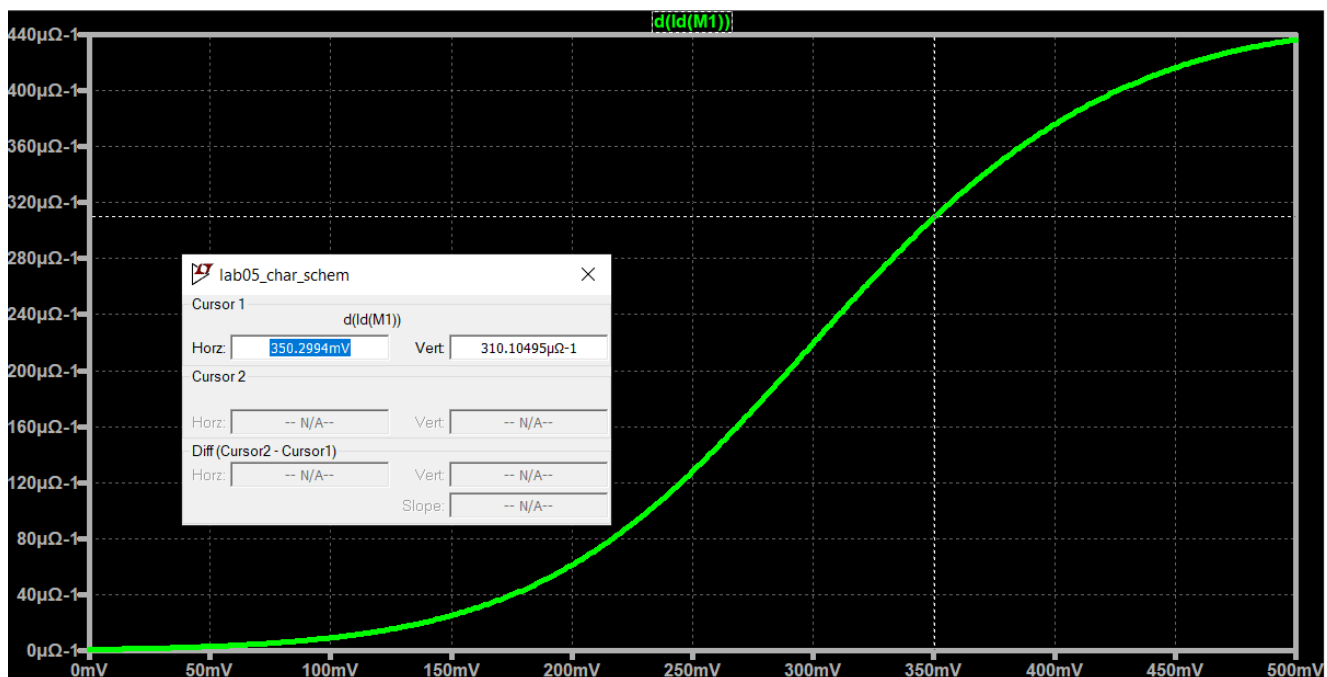

Figure 2.4 Extracting g_m when $V_{GS} = 0.35 \text{ V}$ and $V_{DS} = 0.6 \text{ V}$
- You should get a $g_m \approx 310 \mu\text{S}$. This is shown in Figure 2.4.